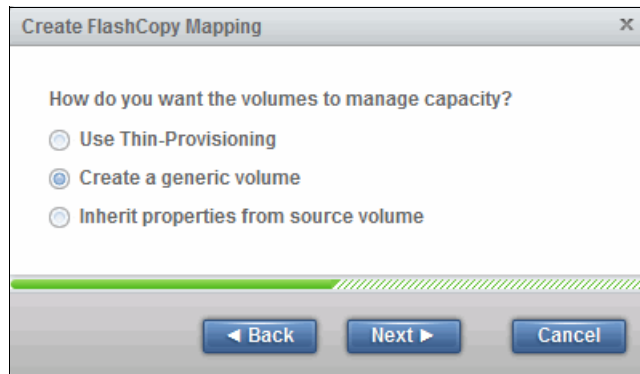

Figure 10-20 Defining how target volumes use capacity
6. You can define how the new target volumes manage capacity, as shown in Figure 10-20. The Create a Generic volume option is your default choice if you selected Clone or Backup as your basic preset.